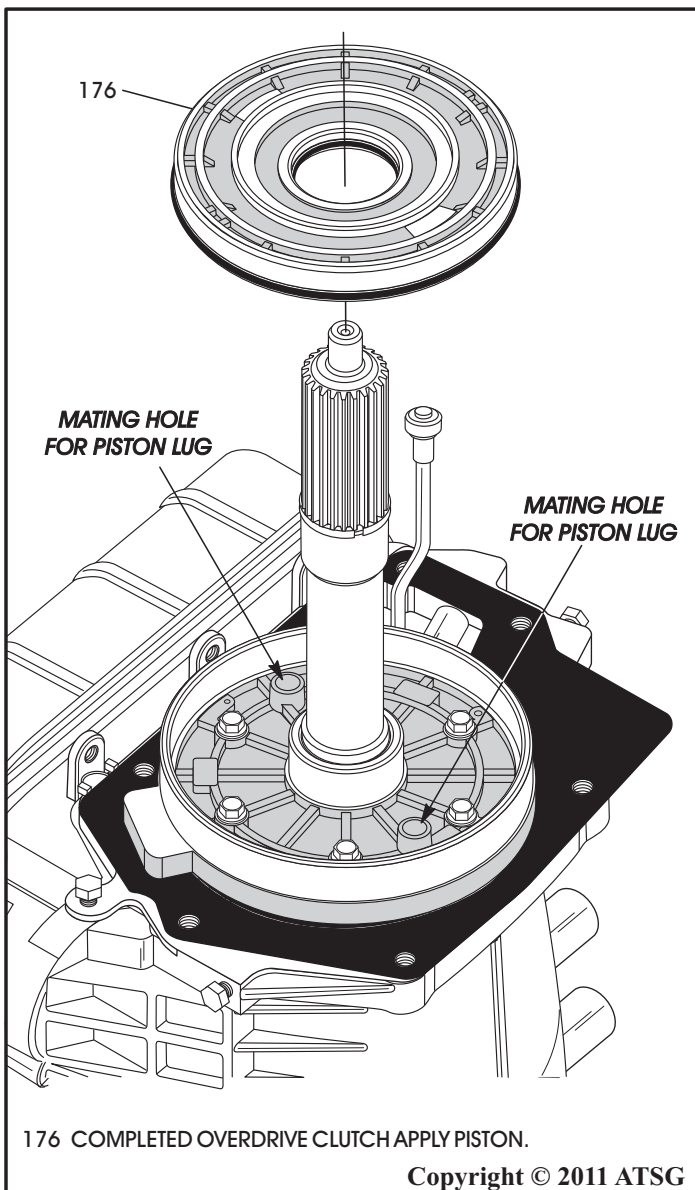

Figure 232
46. Install the completed overdrive clutch piston into the overdrive clutch retainer, using seal savers as necessary, as shown in Figure 232.
Note: *Locating lugs on overdrive piston must be aligned with the two mating holes in the overdrive retainer (See Figure 232).*